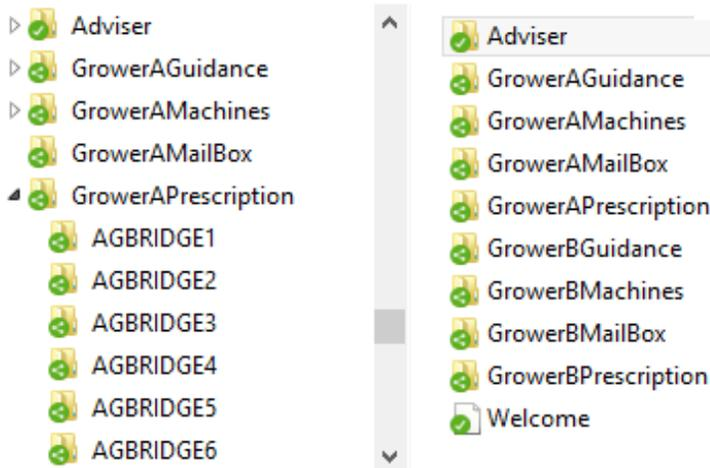

Figure 2
- a. Paste prescription files / folders into the Prescription folder of the machine or machines within an account that you want to receive them. Use this folder also when sending boundary and guidance folders to John Deere 2630 and Case IH Pro 700 controllers. *See Figure 2.*
- b. Paste boundary and guidance files (only files, no folders) into the Guidance folder of each machine or machines within an account that you want to receive them. *See Figure 2.*